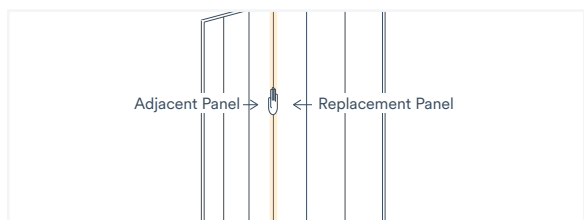

Fig. 49
10. Apply moderate uniform pressure along the seam of the replacement panel and the adjacent panel where the silicone was used to ensure best adhesion (Fig.49). If using a backer, apply the same pressure across the face of the replacement panel as well. Wipe away any excess silicone from the joint to complete the installation.